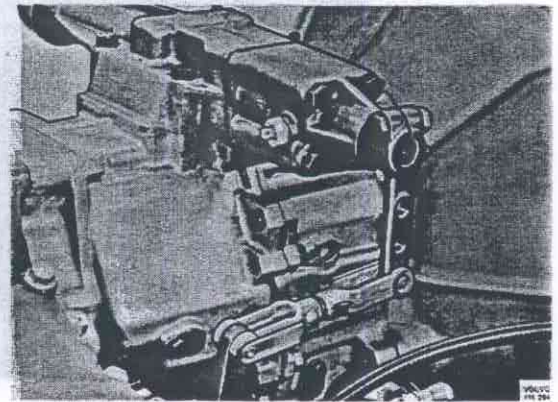

Fig. 43-47. Link between gearbox and aux. gearbox
3. Remove the link arm between the gearbox and auxiliary gearbox, Fig. 43-47.